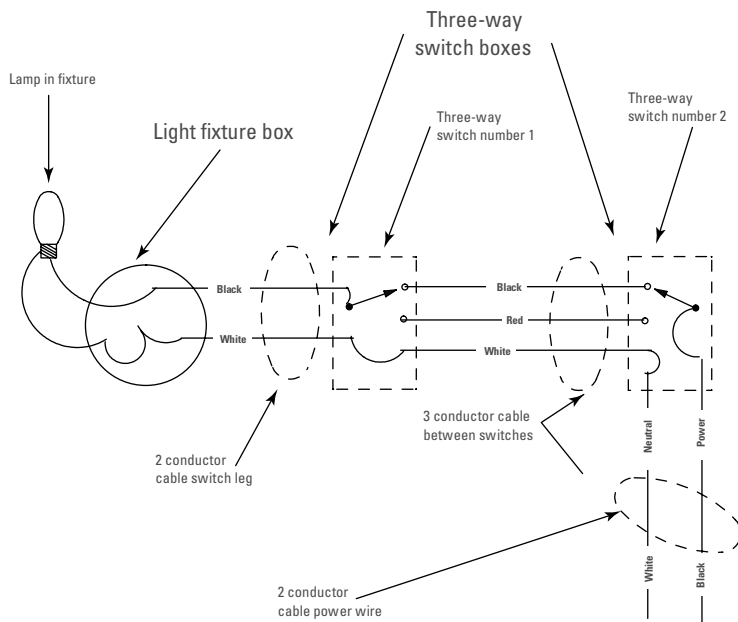

Figure 4-6:
- ✦ The third variation, shown in Figure 4-6, brings power to the second three-way switch in a very different way than the previous two layouts. In this scheme, the traveler wires are going to be black and red, so you can use the white wire as neutral. We seldom use this layout, but it's nice when the first three-way switch and the fixture are far from the second three-way switch, and the first three-way switch's area has no power.